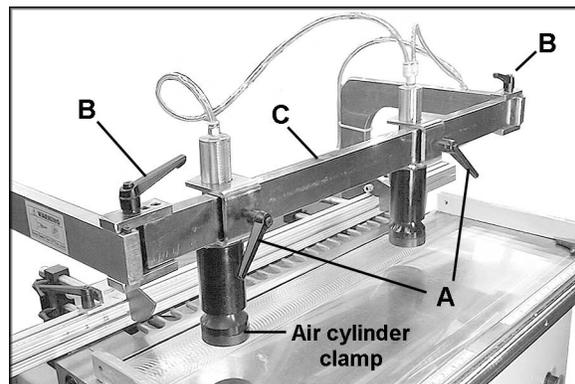

Figure 25
**Horizontal Adjustment:** Loosen the locking handles (A, Figure 25) and slide the clamps to any point along the beam (C, Figure 25). Once the clamps are properly positioned, securely tighten the locking handles (A, Figure 25).
**Vertical Adjustment:** The clamps can be adjusted vertically to suit the thickness of your workpiece. Loosen the locking handle (A, Figure 25) and slide the clamp up or down as desired. Re-tighten locking handle.
**Parallel Adjustment:** The beam (C, Figure 25) can be shifted to keep the clamping system in line with the workpiece; for example, when using narrow workpieces. Loosen both locking handles (B, Figure 25) and slide the beam backward or forward as needed. When finished, always re-tighten the locking handles (B, Figure 25).